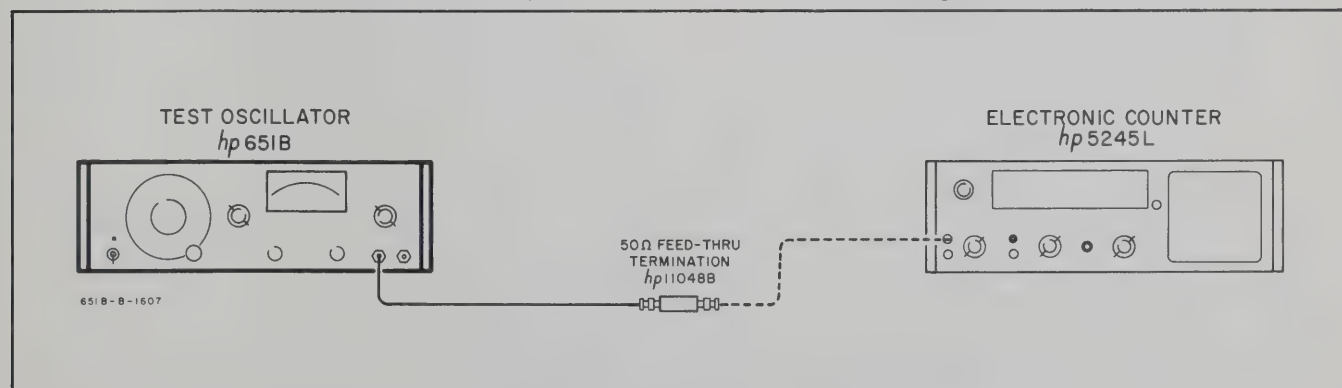

Figure 5-1. Frequency Checks
- a. Connect 651B 50 Ω output to dc input of electronic counter as shown in Figure 5-1. With Option 02-651B, use 75 Ω feed-thru termination (-hp- Model 11094A).